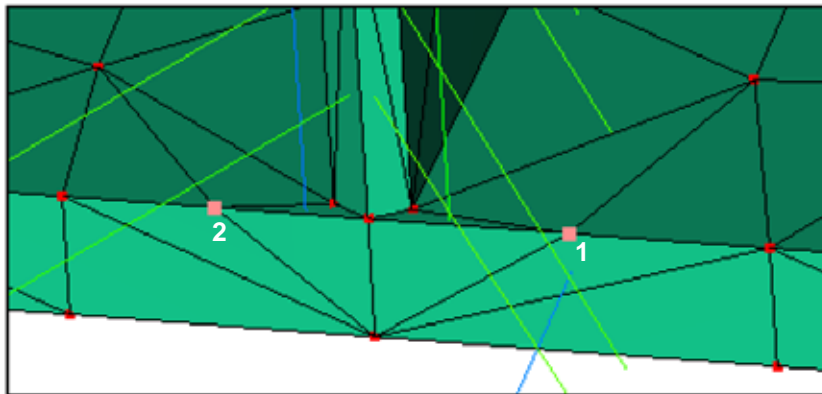

Figure 157: Nodes to be moved
2. Repeat the node merging on the other side of the rib. The part should look like Figure 157.
3. Select the node labeled 1 in Figure 157.
7. Repeat for node 2 shown in Figure 157.